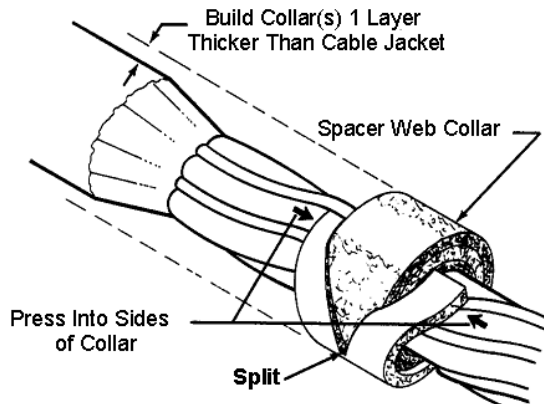

Figure 4
2. Split end(s) of 3M™ Spacer Web and press into sides of collar(s). (Figure 4)